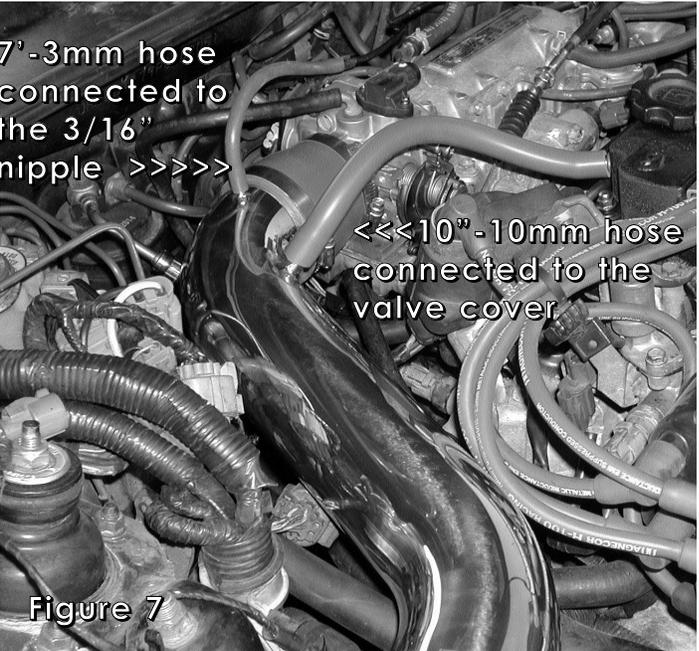

Figure 7
- 6- Press the 7"- 3mm vacuum hose onto the 3/16" nipple on the intake as seen in figure 7. Connect the 10mm vacuum hose to the 1/2" nipple on the intake.**